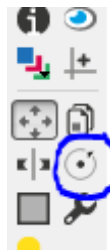

Figure 7
9. The rotate tool shown in **figure 7** can be used to reorient the footprints